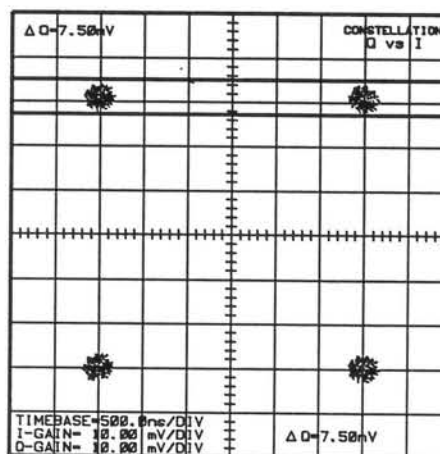

Figure 3-25. Display with Q Limits
Q. The limits can be shown on the display using the delta Q function to set the display up as shown in Figure 3-25: